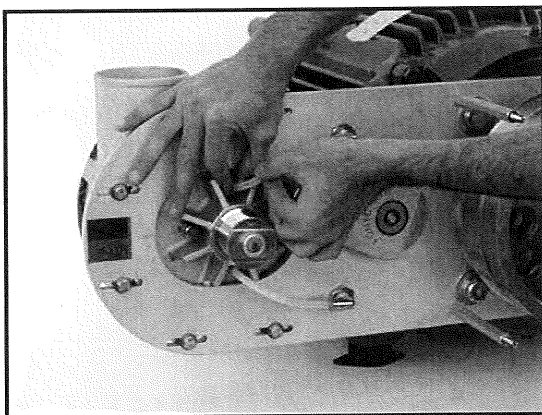

Figure 15 – Disconnect Water-Cooling Lines
3. Disconnect the water-cooling lines at the quick disconnect on the blower head. (See Figure 15) (If Applicable)